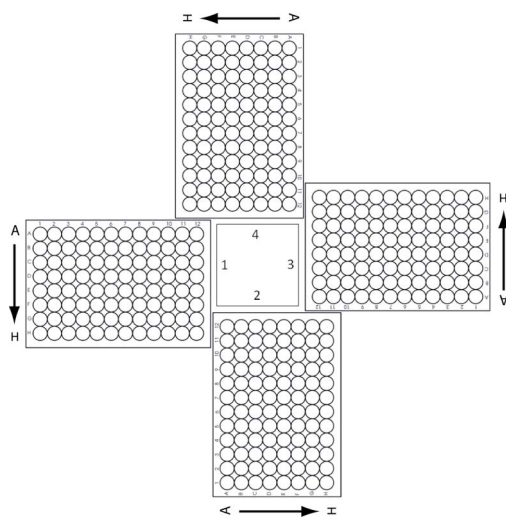

Figure 6 Agilent Labware MiniHub plate orientation.
- Load the Labware MiniHub according to Table 25, using the plate orientations shown in Figure 6.
- 1 Load the Labware MiniHub according to Table 30, using the plate orientations shown in Figure 6 on page 59.